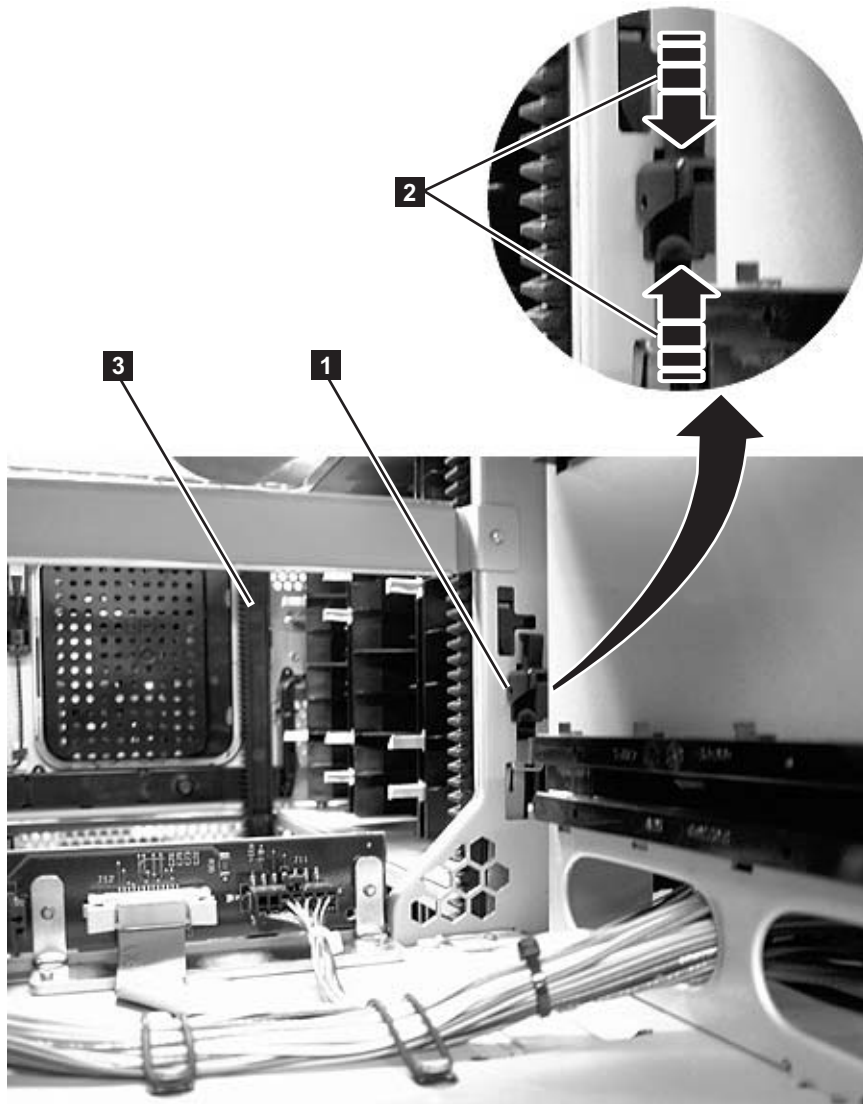

Figure 12-11. Gear racks and gear rack locking mechanism
12. Engage the rear (**1** in Figure 12-11) and front (**3** in Figure 12-11) gear racks in the control module. While pinching the gear rack locking mechanism (**2** in Figure 12-11), push the gear rack down until it locks in place and no gaps appear between the front and rear gear racks in the control module and expansion module.
5. Raise the gear racks (Refer to Figure 12-11 on page 12-12).
- d. Lower the gear racks. (Refer to Figure 12-11 on page 12-12).